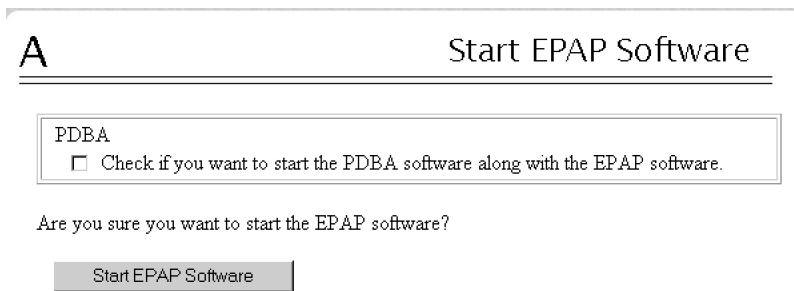

Figure 60: Start EPAP Software
7. From the **Start EPAP Software** screen, make sure that the check boxes are checked as shown in Figure 60: Start EPAP Software: